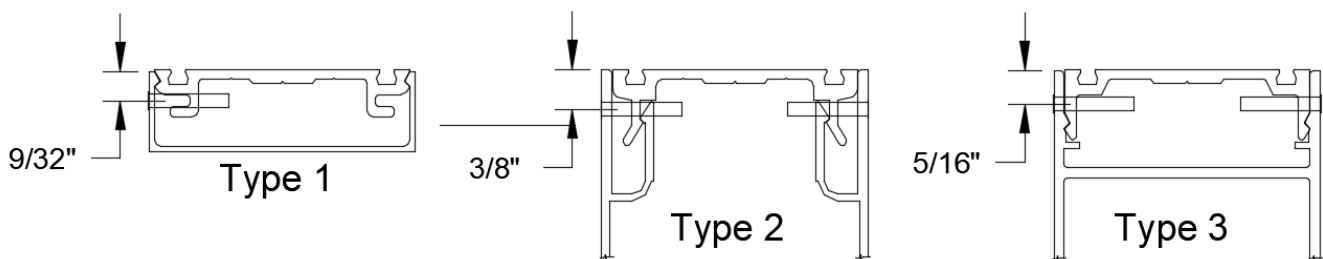

Figure 71: Face Cover Fabrication
- See *Figure 71* for three common Pressure Plate and Face Cap installations. Other custom profiles may be used and attached following this method. Type 1 may be used up to 4" in depth. Type 2 and 3 are for Caps 4" or greater, with type 3 being preferred for any Cap or Cap assembly greater than 8". All Caps shown below will be attached using the **FS-317** Roll Pin. Drill Cap and Pressure Plate with a 1/8" (.125") clearance hole.